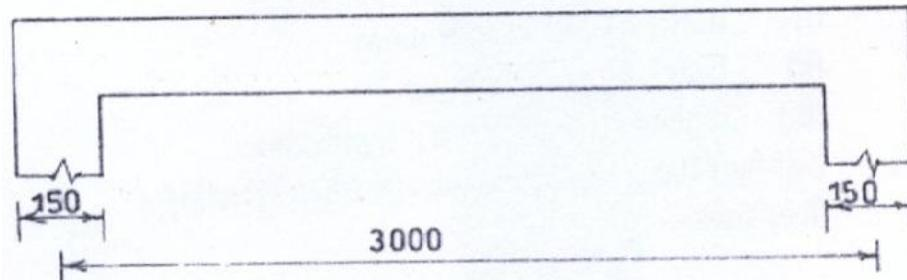

Fig. 1
- (b) Fig. 1 shows a section through a reinforced concrete slab and supporting beams. Use it to answer the following questions:
- Connect the circuit diagram as shown in Figure 1.